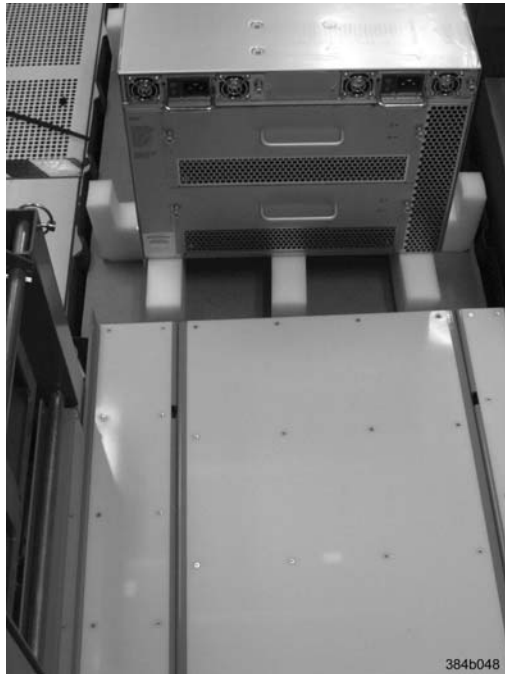

Figure 5. Lift tool positioned next to the chassis on the shipping tray
6. Move the lift tool next to the plastic shipping tray at the blower and power supply end of the chassis. Position the lift tool with its left side next to the shipping tray (see Figure 5 on page 18).